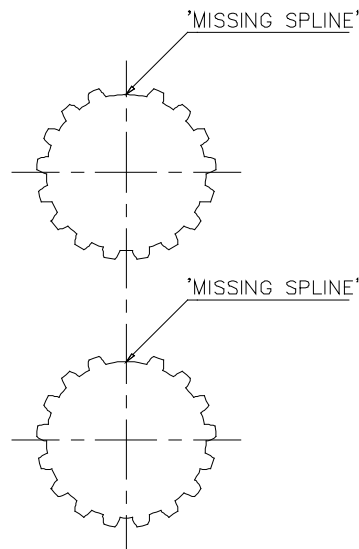

Fig 36 Missing spline alignment.
- Install lipseal (6.19) to gearbox (4.01). Install spacer (5.18) and o-ring (5.22) to drive shaft (5.01). Install gear key (5.10) to drive shaft (5.01).
- Rotate shafts (5.01 and 5.02) so as to position the gaps made by the missing splines in the vertically uppermost positions, see Fig 36.